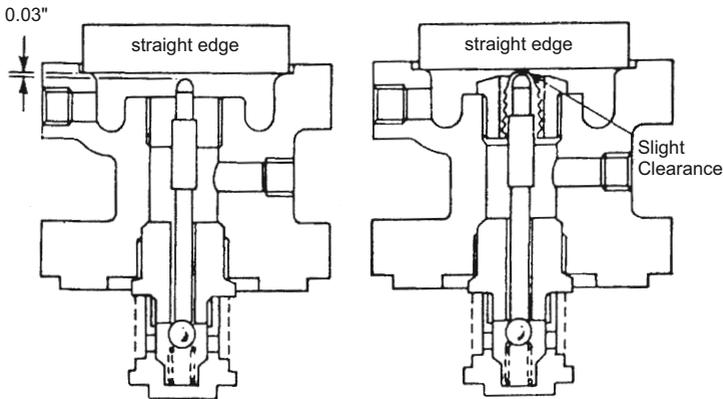

Figure 7 : Fitting the plunger
2. Release locknut (2) and turn adjustment screw (1) anticlockwise until spring is slack.
3. Slide out 'C' washer (3) from underneath locknut and remove cover (4).
4. Remove spring (6) and top spring plate (5).
5. Unscrew the four, 3/8" nuts and remove spring housing (8), bottom spring plate (7) and diaphragm (10).
7. Unscrew the nuts (11) and remove the pilot valve block (30) making sure that the main valve spring (20) is still positioned correctly on top of the main valve head (21).
8. Unscrew pilot valve seat assembly (14) which includes the integral strainer screen (14a) by using a 1 1/16" A/F socket, and also remove plunger (13).
9. Unscrew bellows seal assembly (12) using a 1" A/F socket. If necessary this bellows seal assembly can be replaced.
10. With the bellows seal still removed screw in new pilot valve assembly (14) and tighten down to a torque of 85 Ft-Lbsf.
11. Insert plunger (13) in from the top and check that there is a gap of 0.03" between the top of the plunger and a straight edge placed across the diaphragm location recess. (Refer to Figure 7)
13. Check with straight edge again that with the top of the bellows pressed lightly on to the top of the plunger, there still a slight clearance – a mere line of light between the straight edge and the top of the bellows (Refer figure 7).
14. Before reassembling valve make sure that the gasket faces on both the pilot valve block and the body are clean and that the main valve spring (20) is positioned correctly on top of the main valve head.
15. Fit new gasket (19) and screw the pilot valve block assembly on to the body with the nuts (11). Tighten the nuts to the torques shown in the table below.